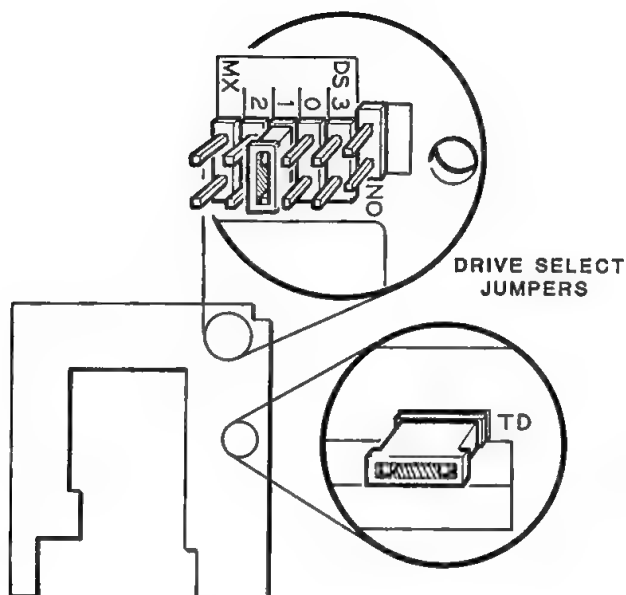

Figure 5-4: Drive Select Jumper Location
The drive select lines enable one particular floppy drive, A or B, to be active at any given time. If two or more drives were enabled at the same time, loss of valuable data could occur. It is therefore necessary for the drive controller to arbitrate between drives to allow only one to be active at any time. Each drive is enabled with its own discrete binary address. Refer to Figure 5-4 for location of the standard settings (Z-248) of the drive select jumpers.
**NOTE:** The floppy drive connected to the last connector on the interface cable will always be drive A. In addition, a terminating resistor pack must be installed on the last drive attached to the interface cable (Figure 5-4). Viewed from the front of the computer, the floppy interface cable connectors should be attached to the floppy drives with the marked end of the cable facing to the right.